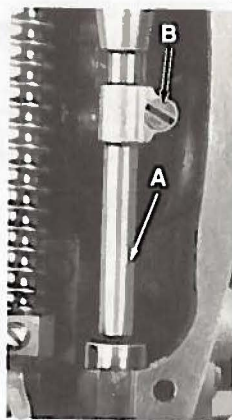

FIGURE 2
Insert a new set of needles (Type and Size as specified) and align the needle bar so that the needles correspond with the needle holes in the throat plate. To turn needle bar (A, Fig. 2), loosen needle bar clamp screw (B) and turn bar as required. Tighten clamp screw.